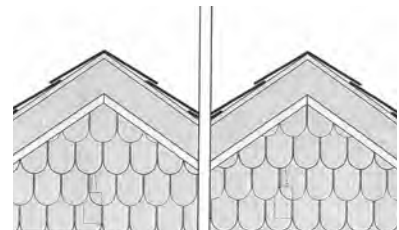

Fig.30
- b. Carefully check alignment of Half-Rounds to center full or partial rounds as needed and cut (see Figure 30).